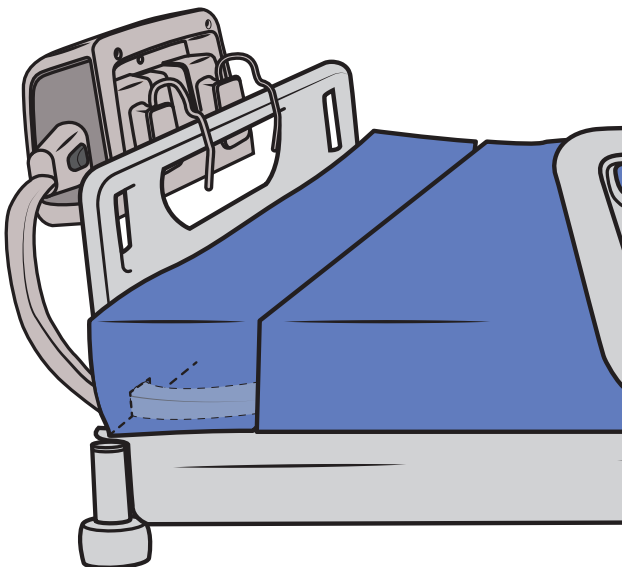

Figure 39
5. Make sure that the tube-set passes underneath the indentation in the mattress extension (see Figure 39).